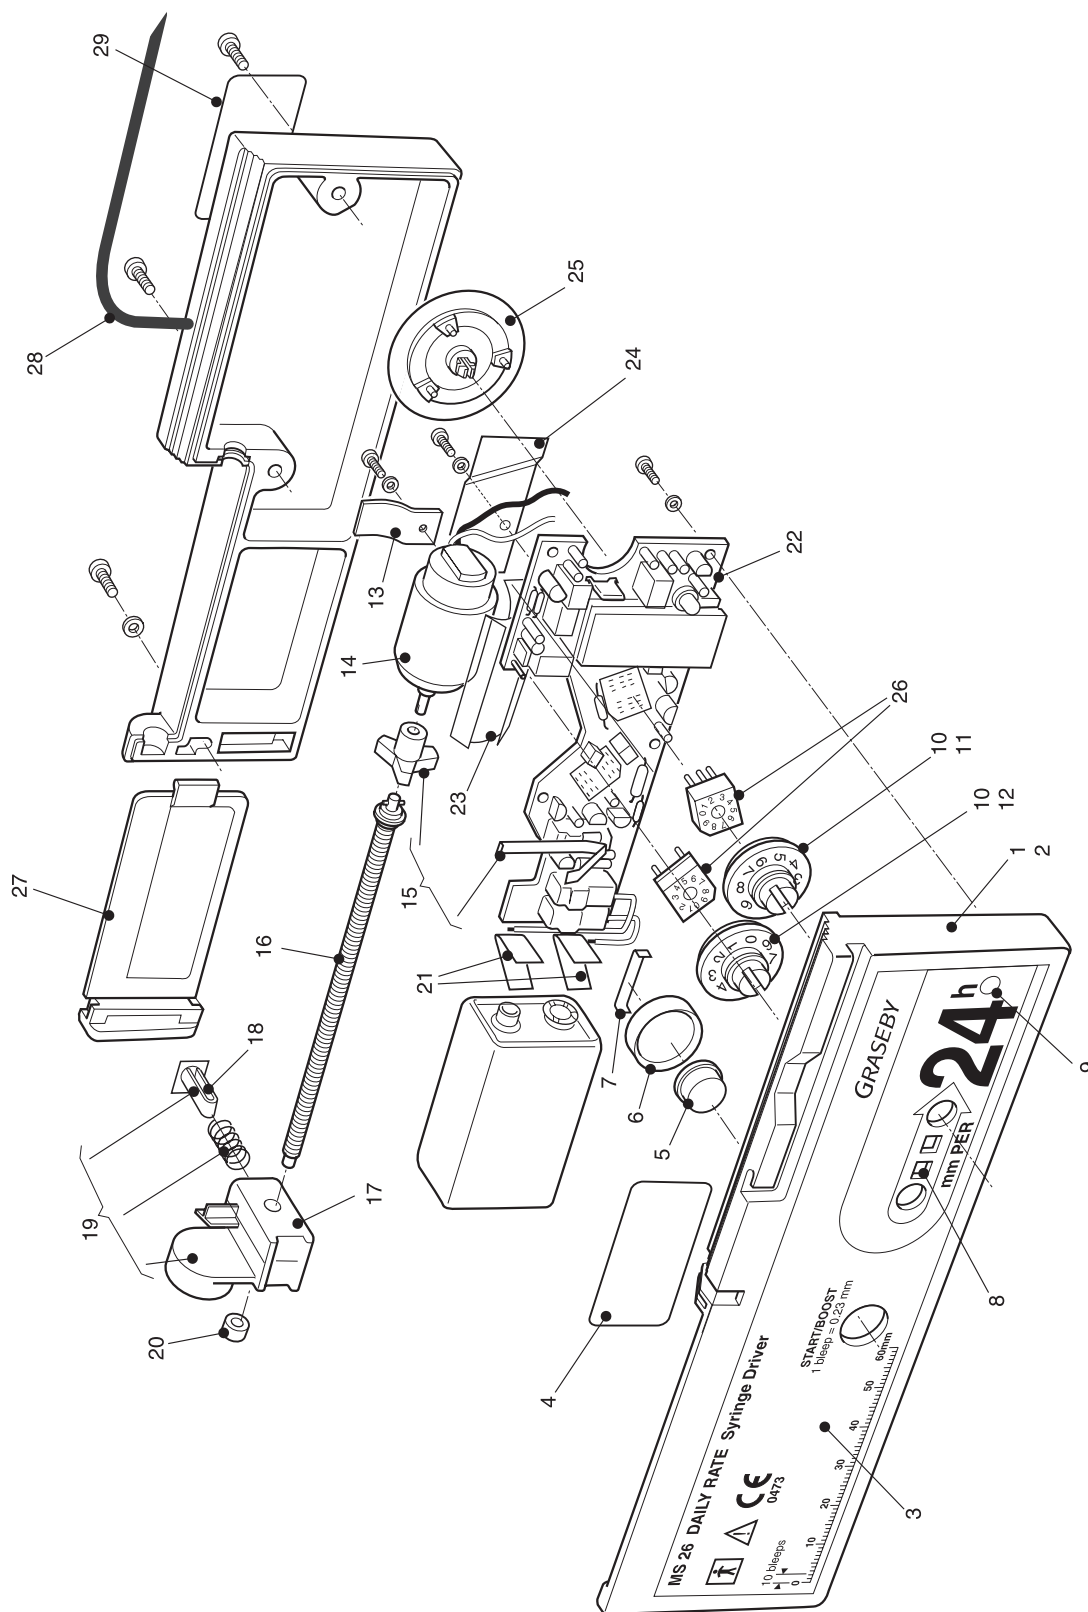

Figure 4-1 MS26 exploded view
The item numbers given in the following descriptions refer to *Figure 4-1, MS26 exploded view*.
1. Ensure that the motor clamp (item 13) is loose.
2. Depress the plunger into the half nut and slide the actuator assembly onto the leadscrew from the back bearing end. *Figure 4-1* shows the correct way the actuator (item 18) faces.